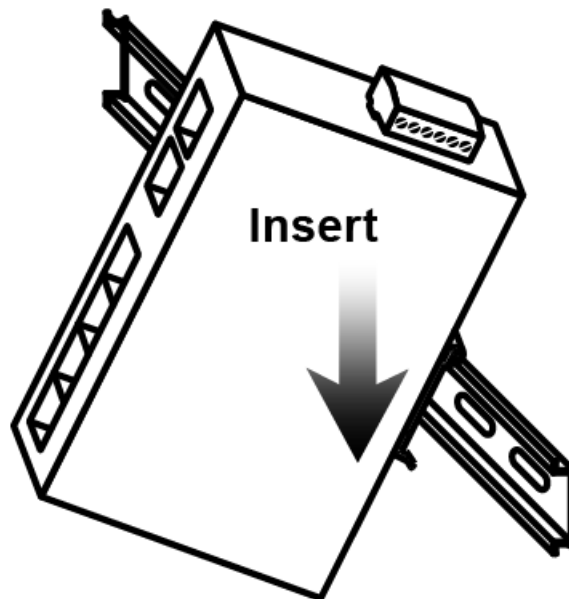

Figure 3.2: Insert the Switch on the DIN-Rail
- Step 3. After the DIN-Rail bracket is installed on the rear side of the switch, insert the top of the DIN-Rail on to the track as shown below in Figure 3.2.